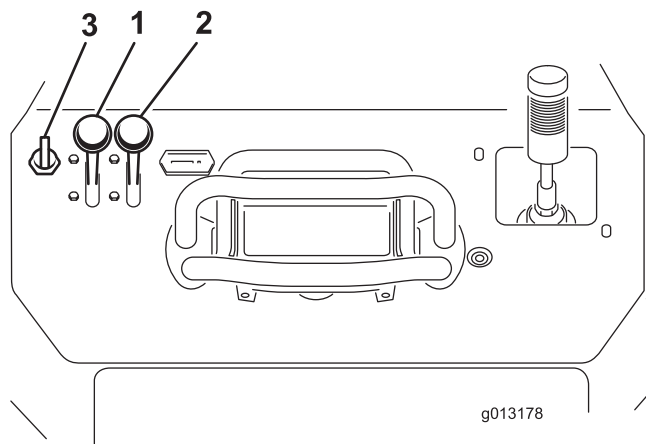

Figure 20
1. Move the throttle lever midway between Slow and Fast positions (Figure 20).
2. Move the choke lever to the On position (Figure 20).
3. Turn the key to the On position (Figure 20). When the engine starts, release the key.
4. Gradually move the choke lever to the Off position (Figure 20). If the engine stalls or hesitates, engage the choke again until the engine warms up.
5. Move the throttle lever to the desired setting (Figure 20).
2. Move the throttle lever to the Slow position (Figure 20).
3. Turn the key off (Figure 20).